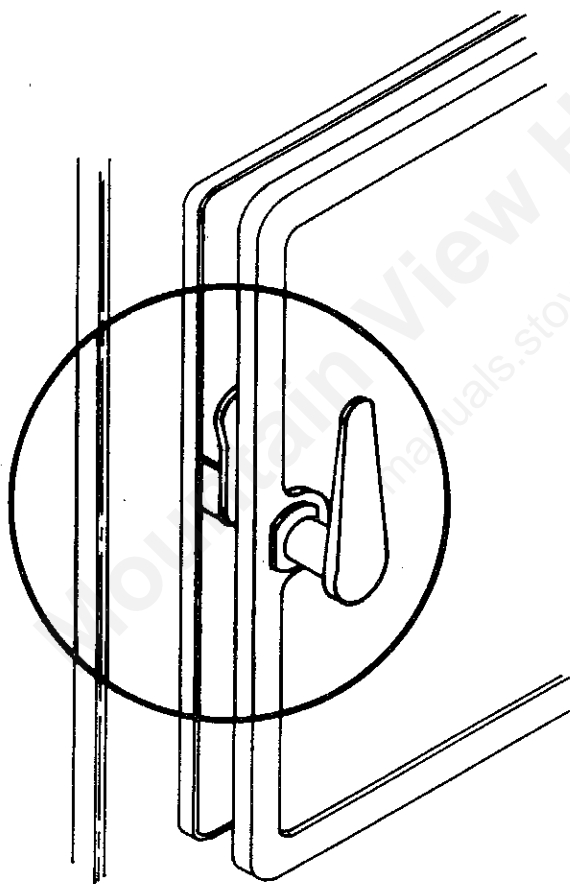

FIG. 10
2. Turn handle clockwise to the 12 o'clock position, pull the door open until you engage the second step. (Fig. 10).